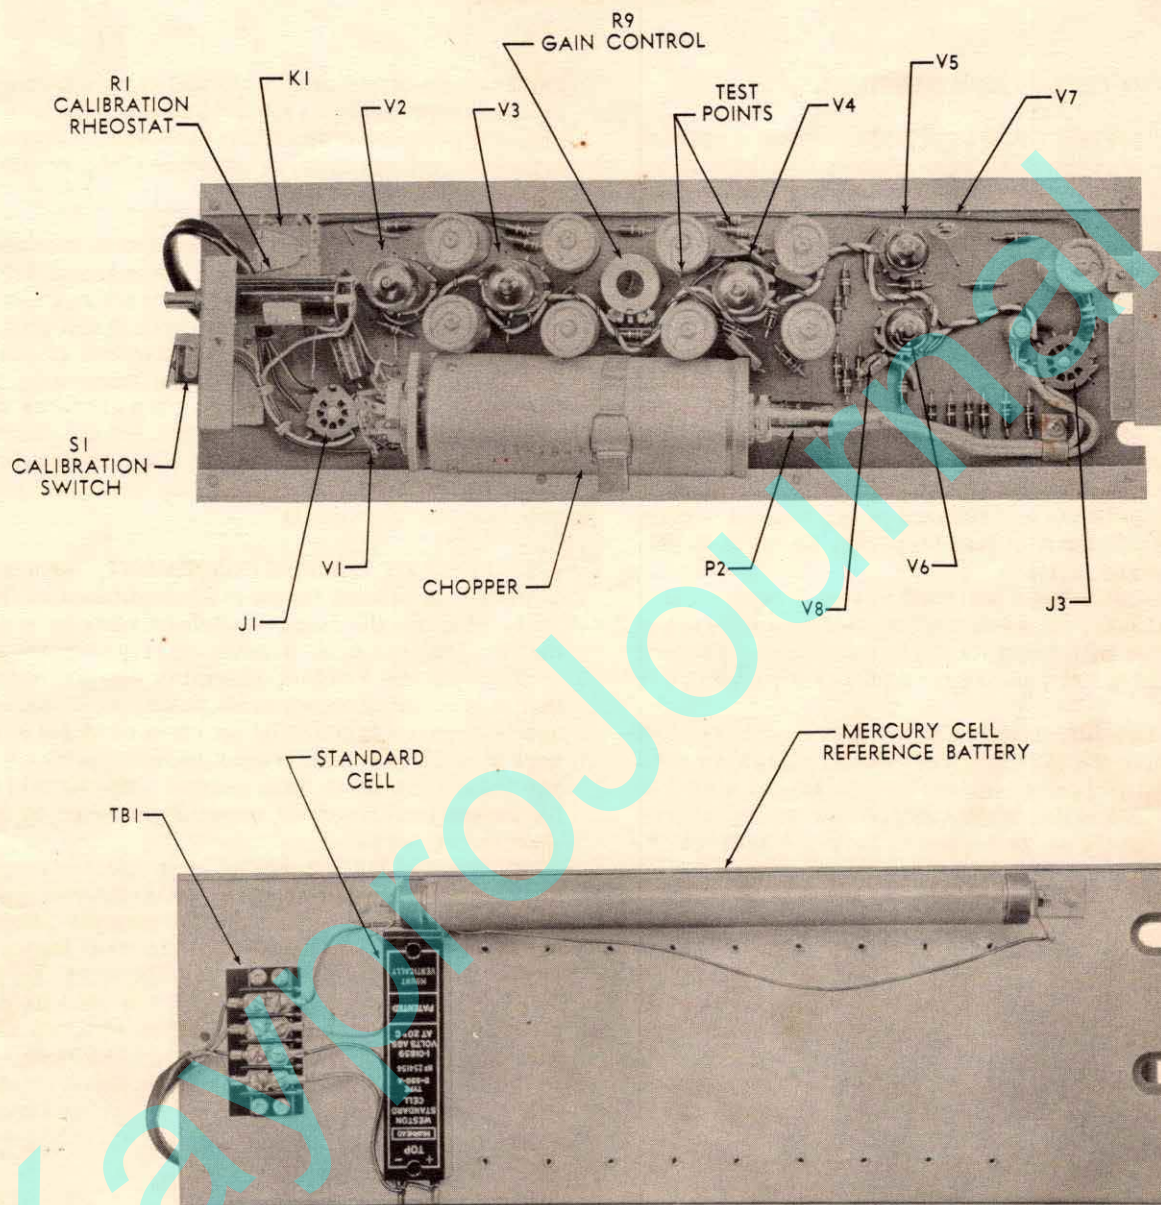
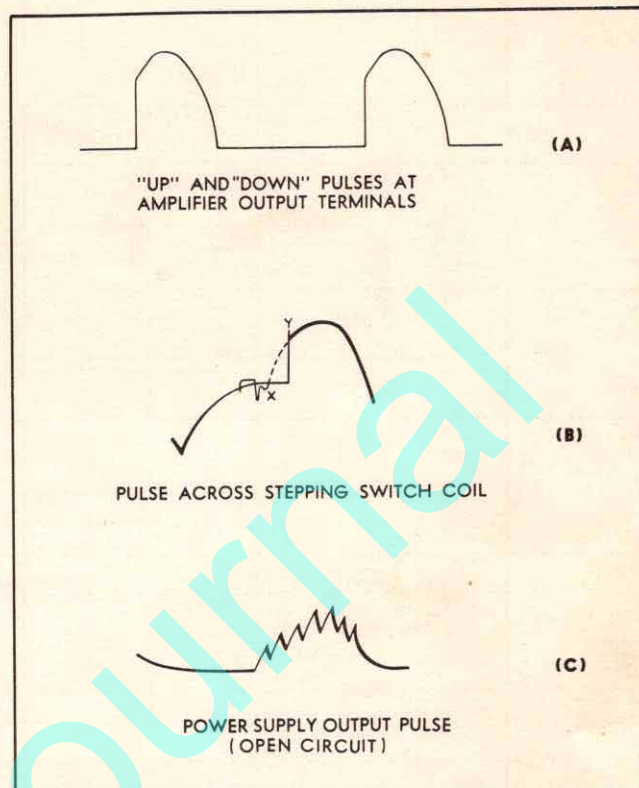
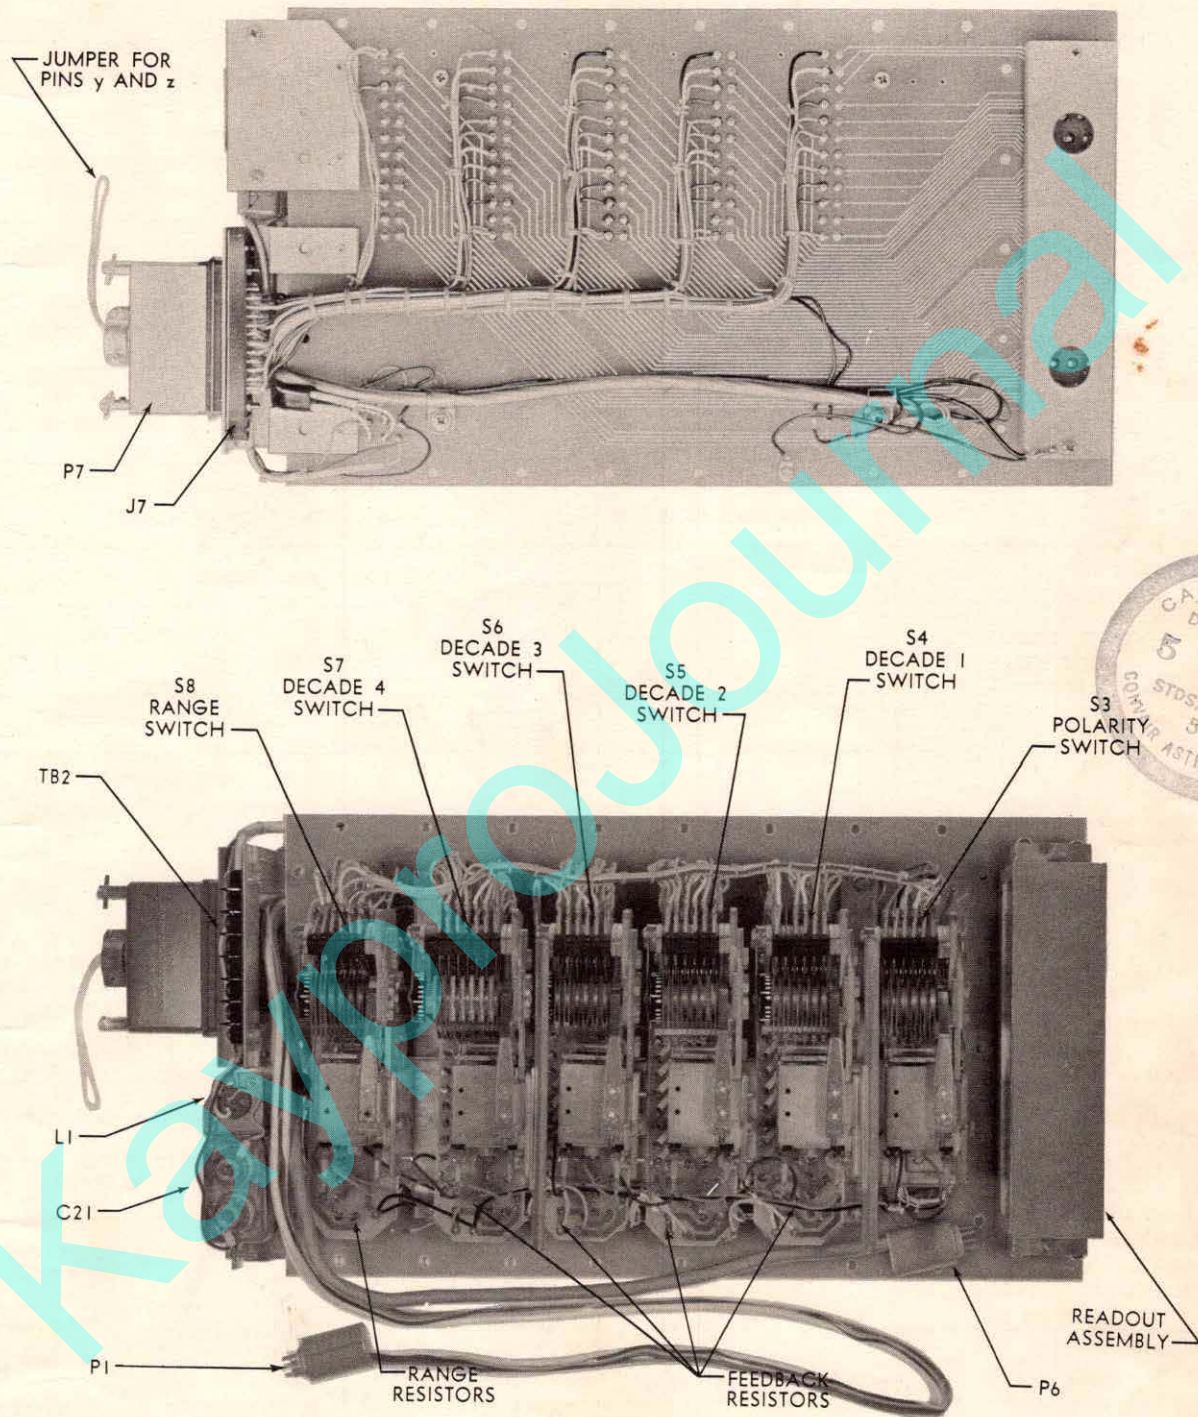
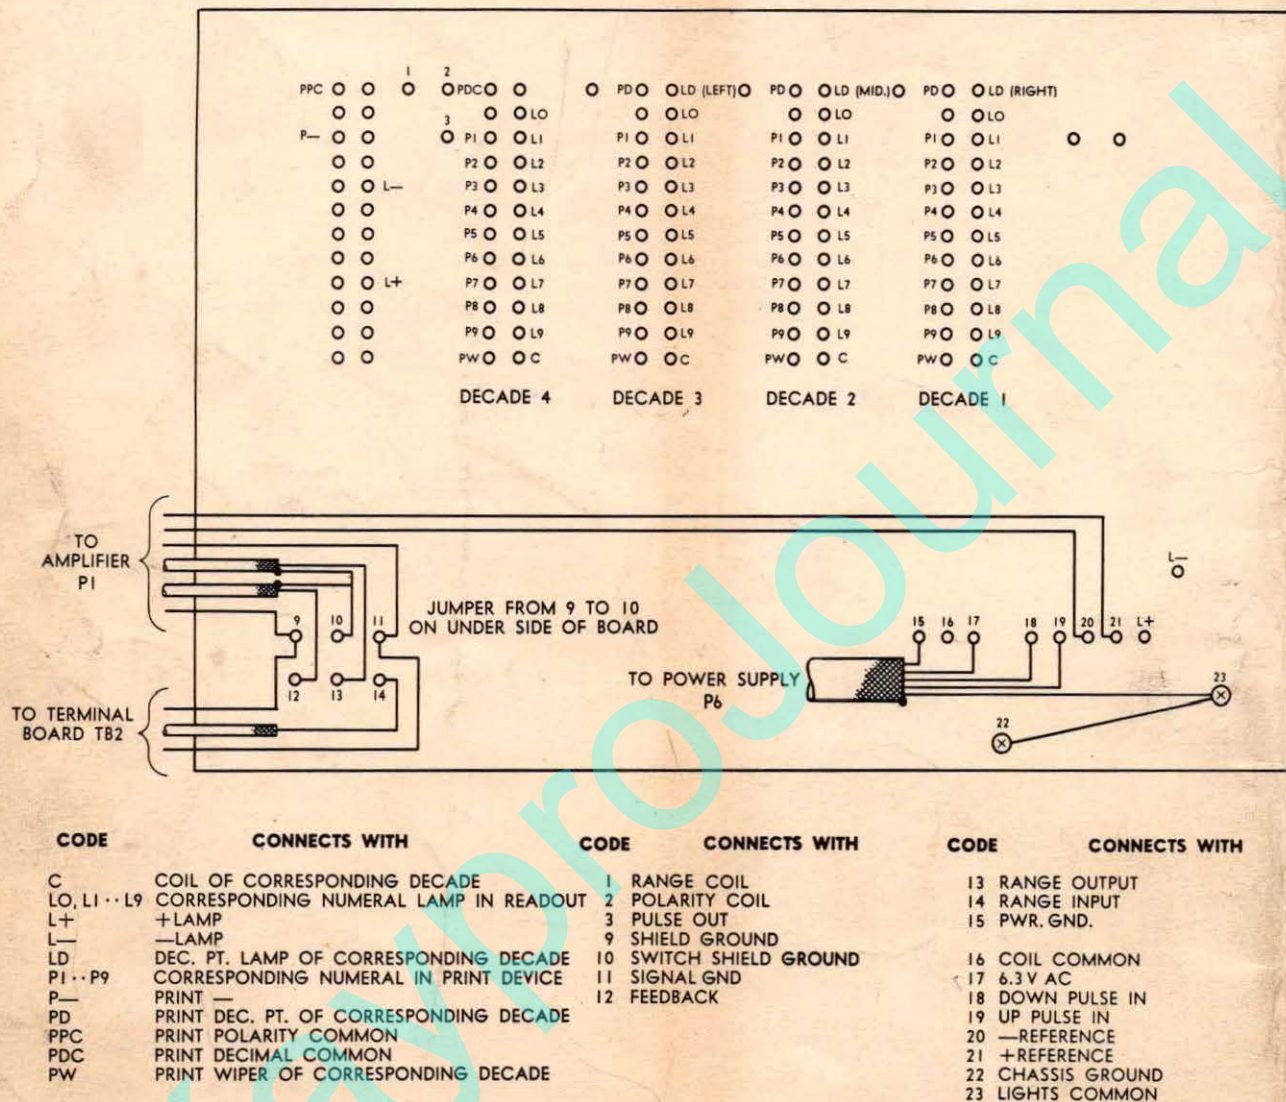

Figure 4-1. Amplifier Assembly, Top and Bottom Views
Figure 4-3. Typical Waveforms
Figure 4-4. Stepping Switch Assembly, Top and Bottom Views
Figure 4-5. Stepping Switch Mounting Board, Wiring Code
4-2. **AMPLIFIER GAIN CONTROL.** When amplifier gain is insufficient, the visual readout display will not respond to input changes of 1 or 2 millivolts. On the other hand, excessively high amplifier gain may cause instability in the readout window associated with the first decade. The following procedure should be followed to adjust amplifier gain control R9, shown in figure 4-1:
2. Connect an oscilloscope to either of the two test points on the amplifier assembly and observe a square wave. (The test points are indicated in figure 4-1.) To increase the amplitude of the square wave, vary the CALIBRATE rheostat slightly until the square wave is more apparent on the oscilloscope. (If the control is moved too far, the reading will change; this should be avoided.)
4-6. The reference battery is mounted on the underside of the amplifier assembly, as shown in figure 4-1. The phenolic tube containing the mercury cells is fitted with one stationary and one spring-loaded end plug. The diameter of the spring-loaded receptacle is smaller than that of the stationary plug. The mercury cells, 9 to 11 in number, are assembled in the phenolic tubes in such a manner that the polarity of the spring-loaded end plug is positive. The use of end plugs having different diameters makes it impossible to install the phenolic tube battery improperly.
4-14. PULSE TRACING. The use of an oscilloscope can greatly facilitate the isolation of troubles in the amplifier or pulse circuits. The oscilloscope can be used to check the amplifier by observing the square-wave error signal at the test points shown in figure 4-1. These test points are connected to the plates of V3 and V4, as indicated on the schematic diagram, figure 4-6. The procedure outlined in paragraph 4-3, step 2, should be followed to observe the waveform at the test points. In addition, a check of the "up" and "down" pulses at the amplifier output terminals can be made with an oscilloscope, using the same procedure. These pulses appear as shown in figure 4-3(A). Part B of the same figure is a representation of the normal waveform that appears at the coils of the stepping switches when they are operating. Direct access to these points is not necessary, since the points are brought out to solder terminals on the stepping switch mounting panel, figure 4-4. (These points are shown on the schematic diagram, figure 4-6, and are identified insofar as the actual equipment is concerned on figure 4-5.) To observe this waveform, produce continuous cycling by disabling the reference circuit (open K1), and connect terminal 2 on the stepping switch board to terminal 3. Points X and Y of figure 4-3(B) should be separated as shown. Insufficient separation indicates that the position of the stator of a stepping switch has changed, or that tension of the switch driving spring has decreased. Figure 4-3(C) depicts the waveform at the output of the power supply if there is no load connected to that line, such as might occur if a coil were open or if the printer receptacle plug were not making proper contact. This can be observed by opening the reference circuit and
4-15. STEPPING SWITCHES. Figure 4-3(B) represents the normal waveform of a pulse across the coil of a stepping switch when the switch is functioning normally. The dotted portion of the waveform represents an imaginary extrapolated extension of the visible portion of the sine wave. The position of the superimposed anomaly to the left of the dotted line, as shown in figure 4-3(B), indicates a properly adjusted stepping switch. When viewing this waveform on an oscilloscope, if point X on the waveform is observed to be farther to the right than the corresponding point in figure 4-3(B), adjustment of the detent spring is indicated. Each stepping switch has a slotted detent spring adjusting screw, which can be seen if the switch is viewed from its coil end. To adjust this spring for proper tension, apply 105 volts dc to the input terminals of the voltmeter, loosen the adjustment screw locknut, and adjust the screw until the proper waveform is attained. (Instructions for observing this waveform are given in the preceding paragraph.) Lock the adjustment.